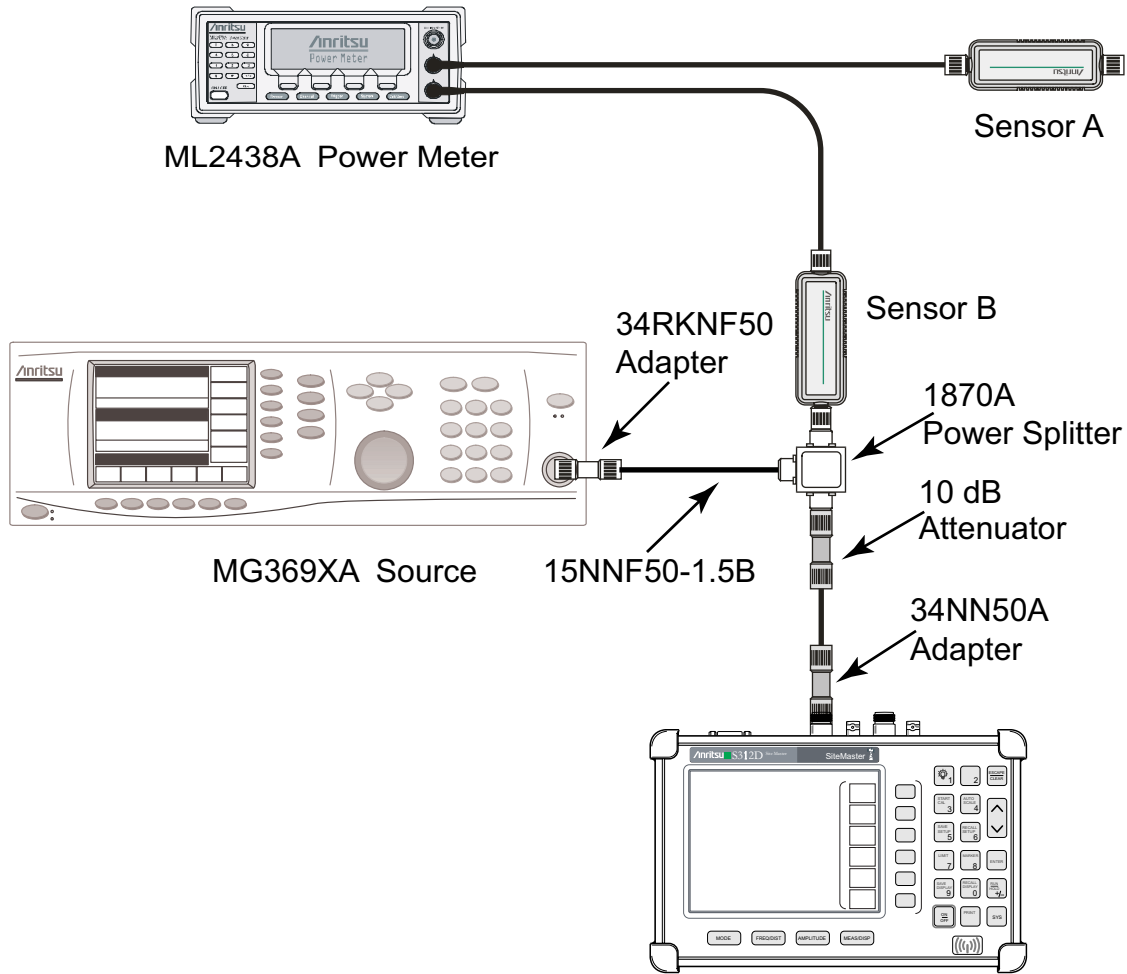

Figure 2-14. Power Meter Verification (Option 29) Test Setup
18. Using the power splitter, coaxial cable and adapters, connect the Site Master to the signal source and the power sensor as shown in Figure 2-14.